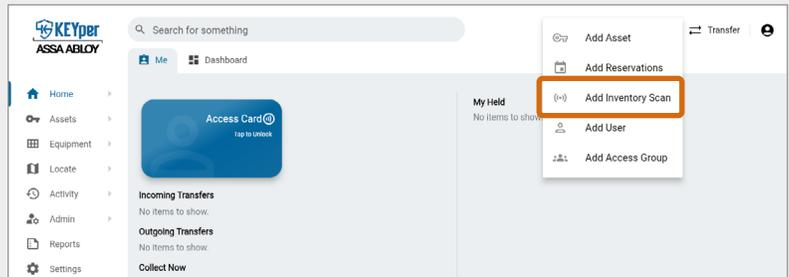

Fig. 94 – Add menu with Add Inventory Scan indicated (KEYper GO Web)
3. Select **Add Inventory Scan** from the list of options, as shown in Fig. 94.